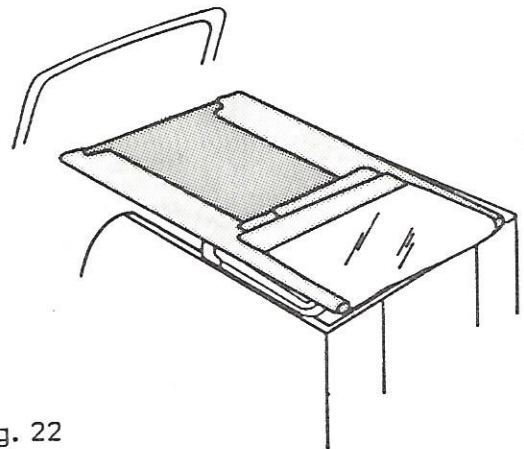

Fig. 22
4. Unfasten the Top from the windshield and lower the Top on the vehicle, at the same time pivoting both bows down to the rear, smooth out side folds. See Figure 22.